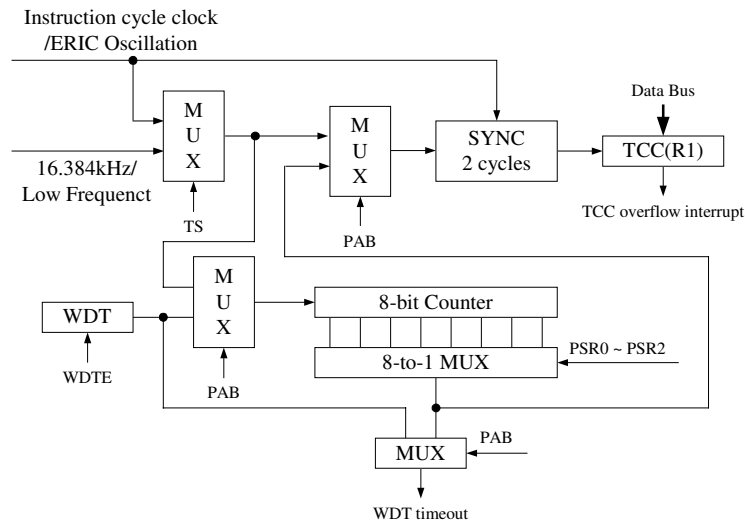

Fig.9 Block diagram of TCC WDT
- Fig.9 depicts the circuit diagram of TCC/WDT.